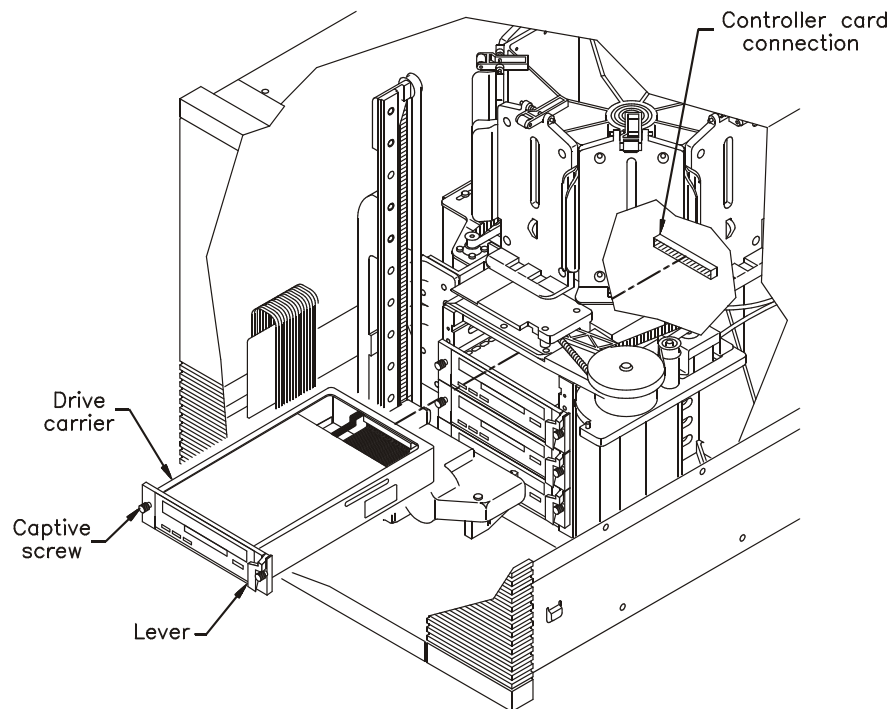

Figure 6-1 Removing and installing a tape drive
1. Using a flat-blade screwdriver, loosen the two captive screws on the drive carrier faceplate. See Figure 6-1.
1. As shown in Figure 6-1, insert the tape drive into the slot with the lever to the right. Make sure the lever is closed. The tape drive should slide easily toward the back.